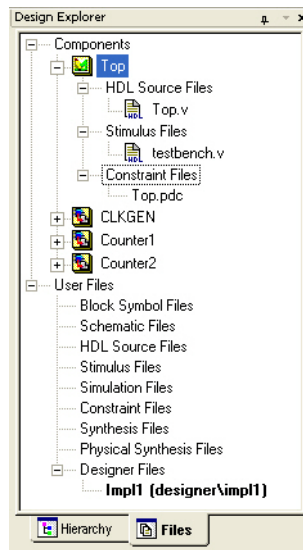

Figure 1-24 • SmartDesign Testbench on Project Manager Files Tab
2. Click the + next to Stimulus Files to expose the testbench (testbench.v(hd)) (Figure 1-24).